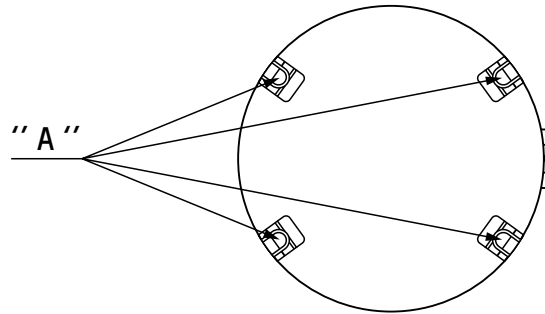
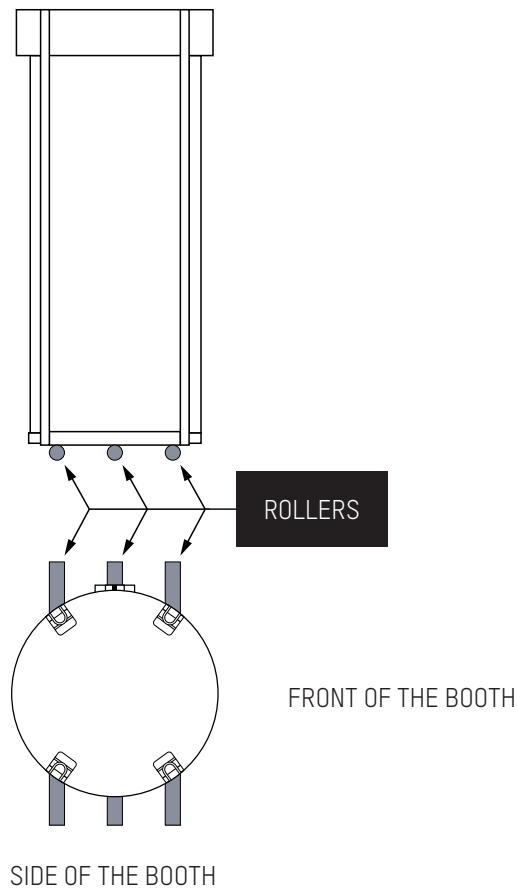

Fig. 17 - Positioning / Handling points
Fig. 18 - Positioning / Rollers
1. Place the booth in the chosen place, putting the external side towards the outside of the place. For the handling use a crane with minimum flow of 1500 kg, by using chains attached to the four upper corners "A" of the booth (⇒ Fig. 17). If necessary, it is possible to displace the booth using a crowbar to lift it slightly and place the rollers under the base, the crowbar on the bottom and the rollers under the base (⇒ Fig. 18).